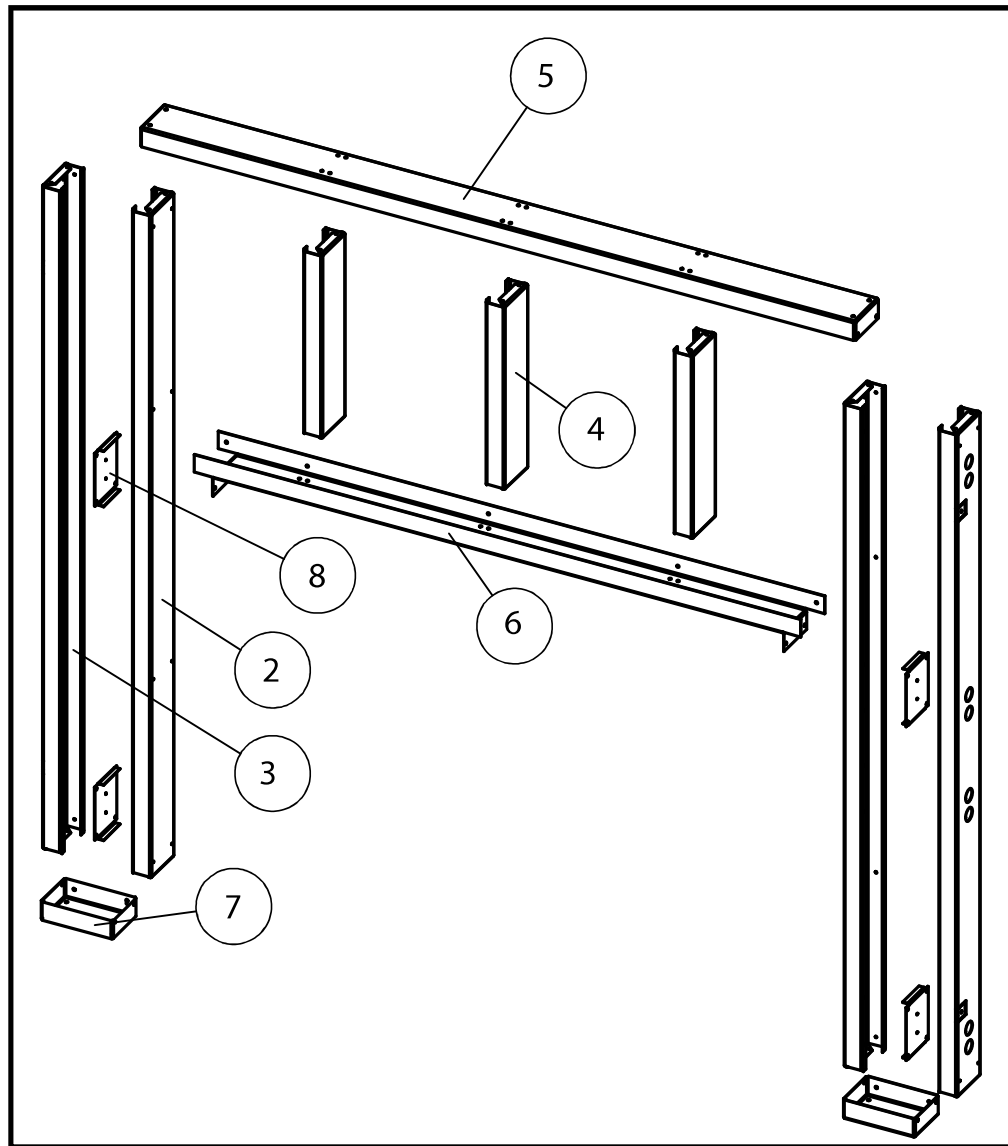
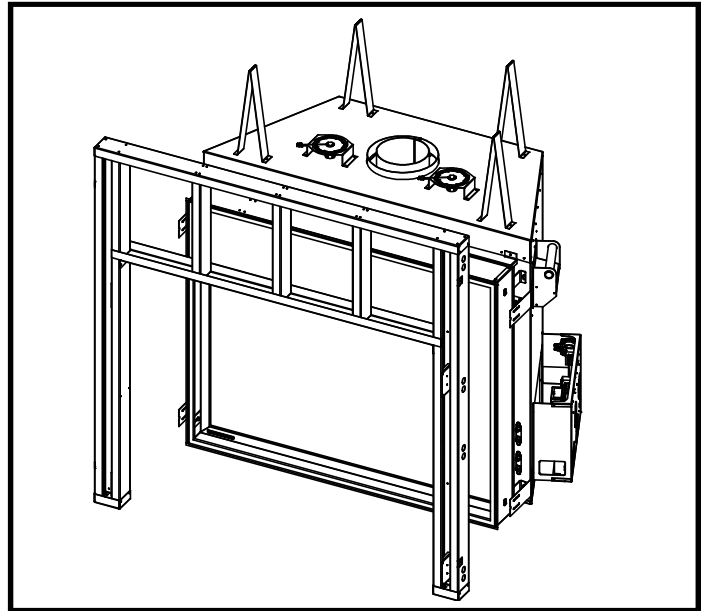
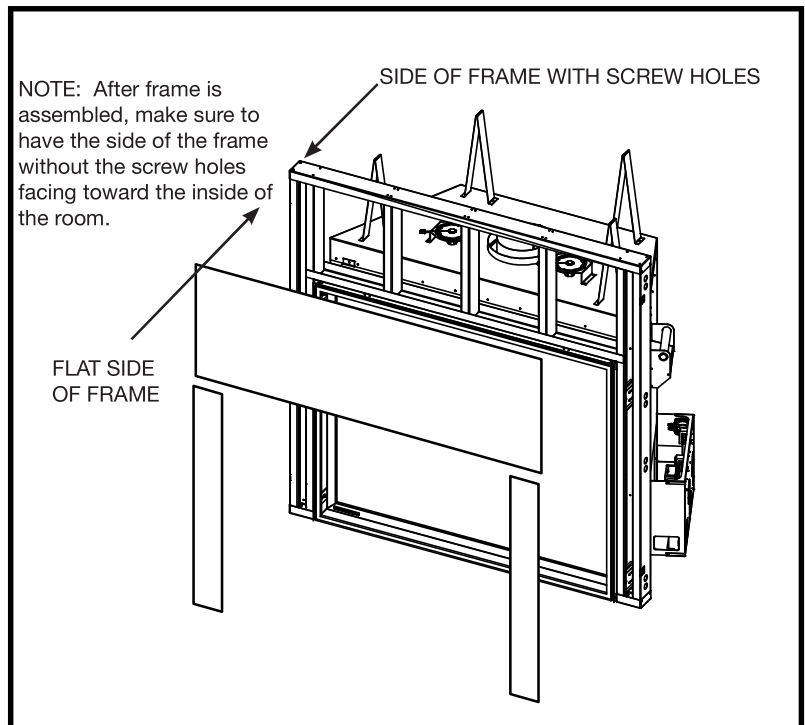

Figure 14: TC54 Steel frame assembly.
Figure 15: Align the assembled frame with the fireplace.
Figure 16: Aligning the frame so that the flat surface is facing outward.
- Lay out the horizontal header stud (5) on a large flat surface. (Position all pieces on their narrow edges as shown in the illustration in (Figure 14).
- Position the three short, vertical center studs (4) perpendicular to the horizontal header stud, and align with the corresponding sets of screw holes. Fasten with the screws (1) provided.
- Position the shorter horizontal plate stud (6) at the bottom end and perpendicular to the vertical center studs (4). Align the bottom ends of the vertical center studs to the corresponding sets of screw holes and fasten with the screws provided.
- Lay the inner vertical side stud (2) so that it's top end aligns with the 2nd set of screw holes of the horizontal header stud (5). The side stud should attach to, and be perpendicular to the short plate stud end (6). Fasten with the screws provided.
- Fasten the vertical outer side studs (3) to the ends of the header stud (5).
- Position the base plate (7) at the bottom of the inner and outer side stud legs and fasten with the screws provided.
- Align the assembled frame to the unit framing brackets (Figure 15). Align the framing plates (8) to the fastening points through the access holes in the outer side studs (3).
- Secure the frame assembly to existing framing through the header stud (5) and the base plates (7).
- Use drywall screws to install the concrete board (Figure 16).